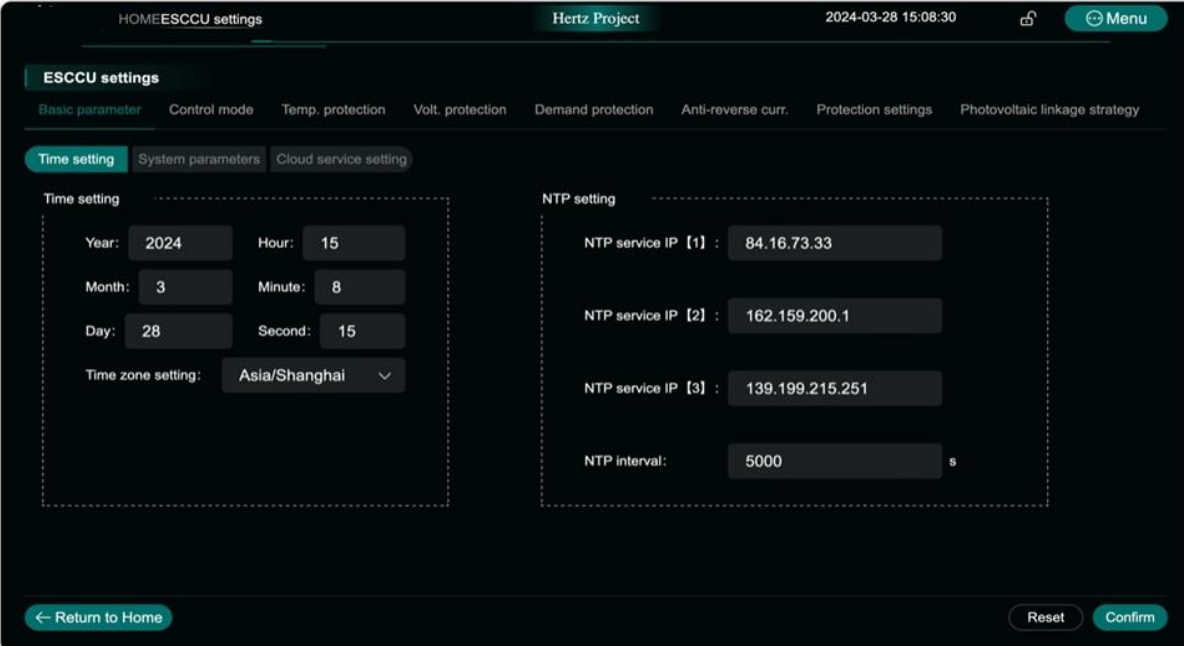

Figure 5-9 Basic Setting
- 4) Multi-Rack data view: click on each heap's data frame to access detailed parameters for each corresponding heap (refer to Figure 5-9).